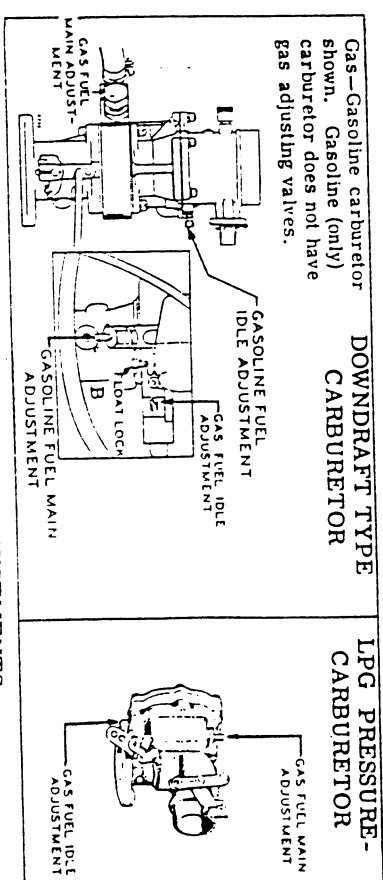

FIG. 9 - CARBURETOR ADJUSTMENTS
GAS FUEL OPERATION (Downdraft Carburetor). - This applies to the combination gasoline carburetor. For gas fuel operation see that the float lock screw (see B, Fig. 9) is turned up tightly to prevent the float from vibrating inside the carburetor. If an emergency source of gasoline fuel is also connected, see that the gasoline shut off valve is closed. See that the choke is properly locked in its wide open position (Fig. 10). Plants equipped with a Garretson regulator require no choking or priming when starting.
3. Back off the float lock screw (B, Fig. 9) until it seats firmly in the down position. Turn the gasoline shut off valve to its open position.